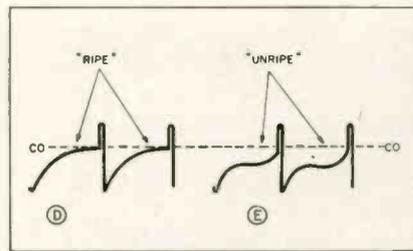

Fig. 2—Blocking oscillator grid waveforms, with and without sine-wave stabilizing action.
"Suppose a noise pulse comes along during video-signal time," you may ask, "when it should be wiped out, but its amplitude is only equal to or smaller than that of the true sync pulse. It gets through anyway, doesn't it?" It does, but it isn't likely to have any effect on the oscillator. Most sync oscillators in TV sets have pulsed outputs. (For example, see Fig. 2 in *Let's Look At Circuits* No. 3, July 1955). Unless an input pulse is very large, it can only trigger such an oscillator at the time when it is "ripe" for tripping. A low-amplitude pulse coming along during the negative portion of the oscillator cycle falls into the negative "hole" of the waveform. To magnify this condition, many oscillators have a tank circuit resonant at the sync frequency to produce an added "hole" for stray pulses. (In horizontal oscillators, this tank is often externally adjustable by way of the stabilizing coil.) The negative portion of the tank-produced sine wave
The stabilizing effect of adding a tank circuit to a deflection oscillator can be seen from the waveforms of Fig. 2. Waveform D is the normal grid waveshape for a blocking oscillator. Note that, before grid voltage actually swings above cutoff (CO) to fire the tube into conduction, the voltage waveform has swung up quite close to the cut-off point—so